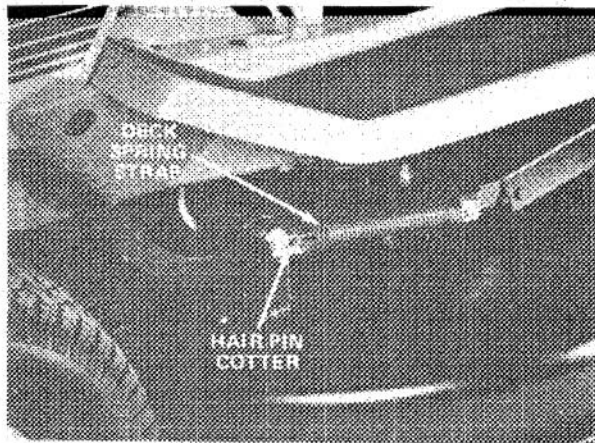

Figure 35
5. Pull the deck spring straps forward while pushing deck rearward and position the clevis pins through the strap holes. Install a flat washer and a hair pin cotter to secure the assembly (Fig. 35).